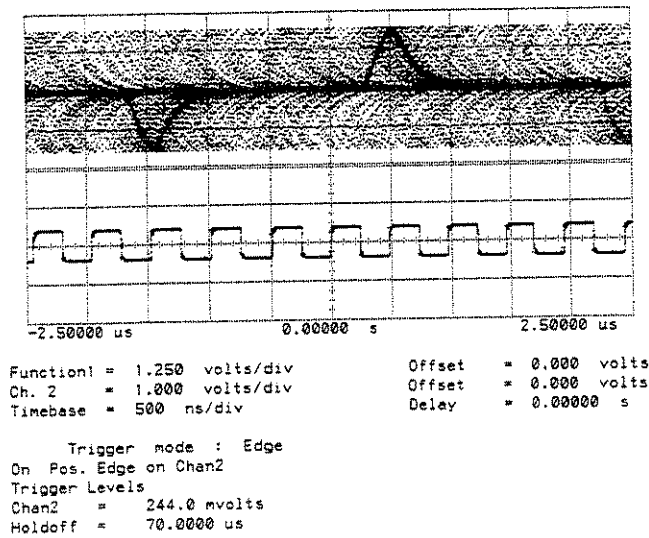

Figure 8-30 8UI p-p Jitter
- Adjust the Tx Jitter Amplitude P-P field on Page 4 [JITTER TRANSFER FN] until the Tx DATA OUT waveform overlaps itself as shown in Figure 8-30